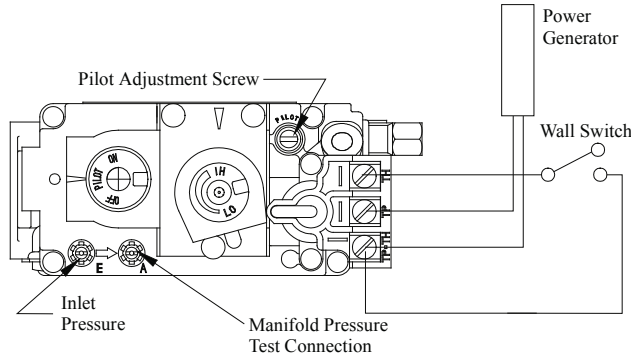

Figure 11. SIT NOVA 820.637 for NG, SIT NOVA 820.636 for LP.
- Have the fireplace installation inspected yearly, including a visual check of the burner and the pilot flame. For your convenience a 1/8" manifold pressure tap is supplied on the gas valve for a test gauge connection. See Figure 11.
1. Locate Pilot Adjustment Screw. (See figure 11.)
Pilot won't ignite	Disconnect remote wires and try to light pilot. If pilot now works, remote connections are faulty. Check wiring diagram figure 11.
Main burner will not light	1. Check wiring (see figure 11). 2. Check wall switch for proper connection.